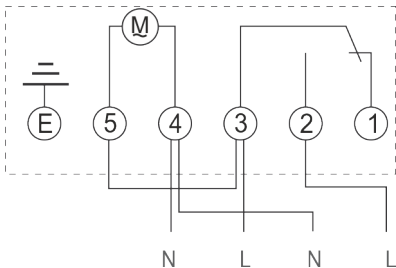

Fig. 4: BG1S/BG7S mains connection
The diagram (Fig. 4) shows the wiring for mains connection. The connection between terminals 3 and 5 must be mounted.
10. Insert the connection wires into the corresponding terminals in accordance with the relevant wiring diagram (A = application/connected load; S = supply voltage; N = neutral conductor; L = live conductor) (Fig. 4).